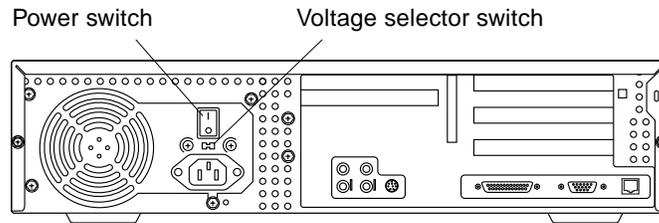

FIGURE 10-2 System Power Switch
4. **Set the power switch to the on position (FIGURE 10-2).**